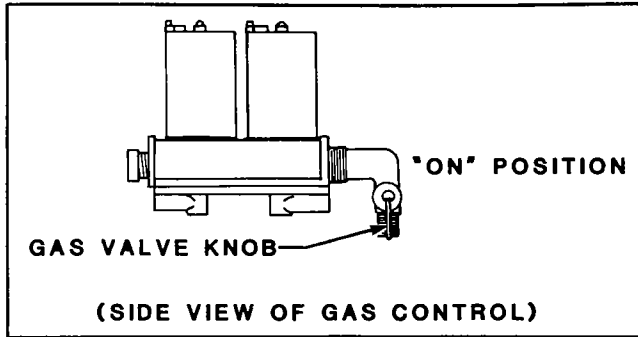

Figure 50. Gas Valve Control
2. Remove furnace front panel. Turn gas valve control of OFF position (figure 50). Wait 5 minutes.